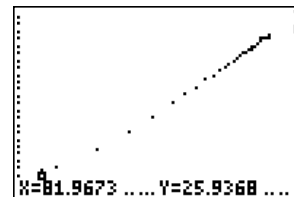

Figure 29
- Press $\left[\text{2ND} \right]$ when you are satisfied with the start (Figure 29).